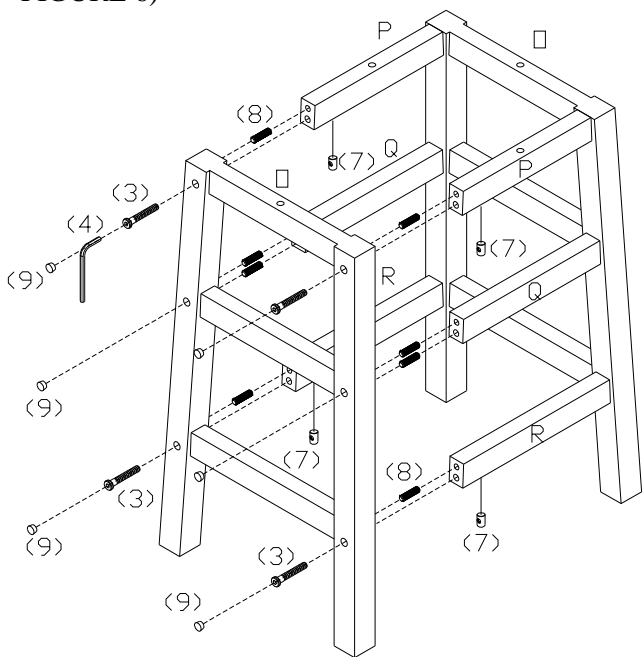

FIGURE 5
7. INSERT WOOD DOWELS (8) INTO PREDRILLED HOLES ON ENDS OF PARTS (P, Q, R) AND FIT INTO CORRESPONDING HOLES ON SIDE FRAMES (O), FIT T-BOLTS (7) INTO THE HOLES ON PARTS (P, R). AND TIGHTEN LONG MACHINE SCREWS (3) THROUGH PREDRILLED HOLES ON SIDE FRAMES (O) INTO T-BOLTS (7) BY USING WRENCH (4). PUSH WOOD PLUGS (9) INTO THE HOLES ON OUTSIDE OF SIDE FRAMES (O). PLEASE NOTE THAT IF SCREWS DO NOT TIGHTEN, ROTATE T-BOLTS (7) SO THAT THREAD OF T-BOLTS ARE FACING SCREWS. (AS SHOWN IN FIGURE 5)